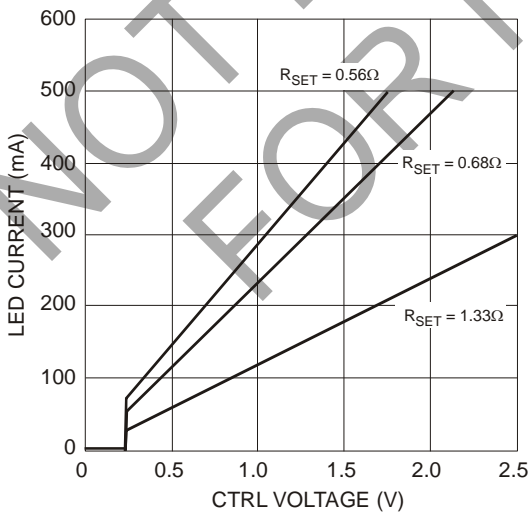

Figure. 6 LED Current vs. V_{CTRL}
7. Refer to figure 6 for the device derating curve.